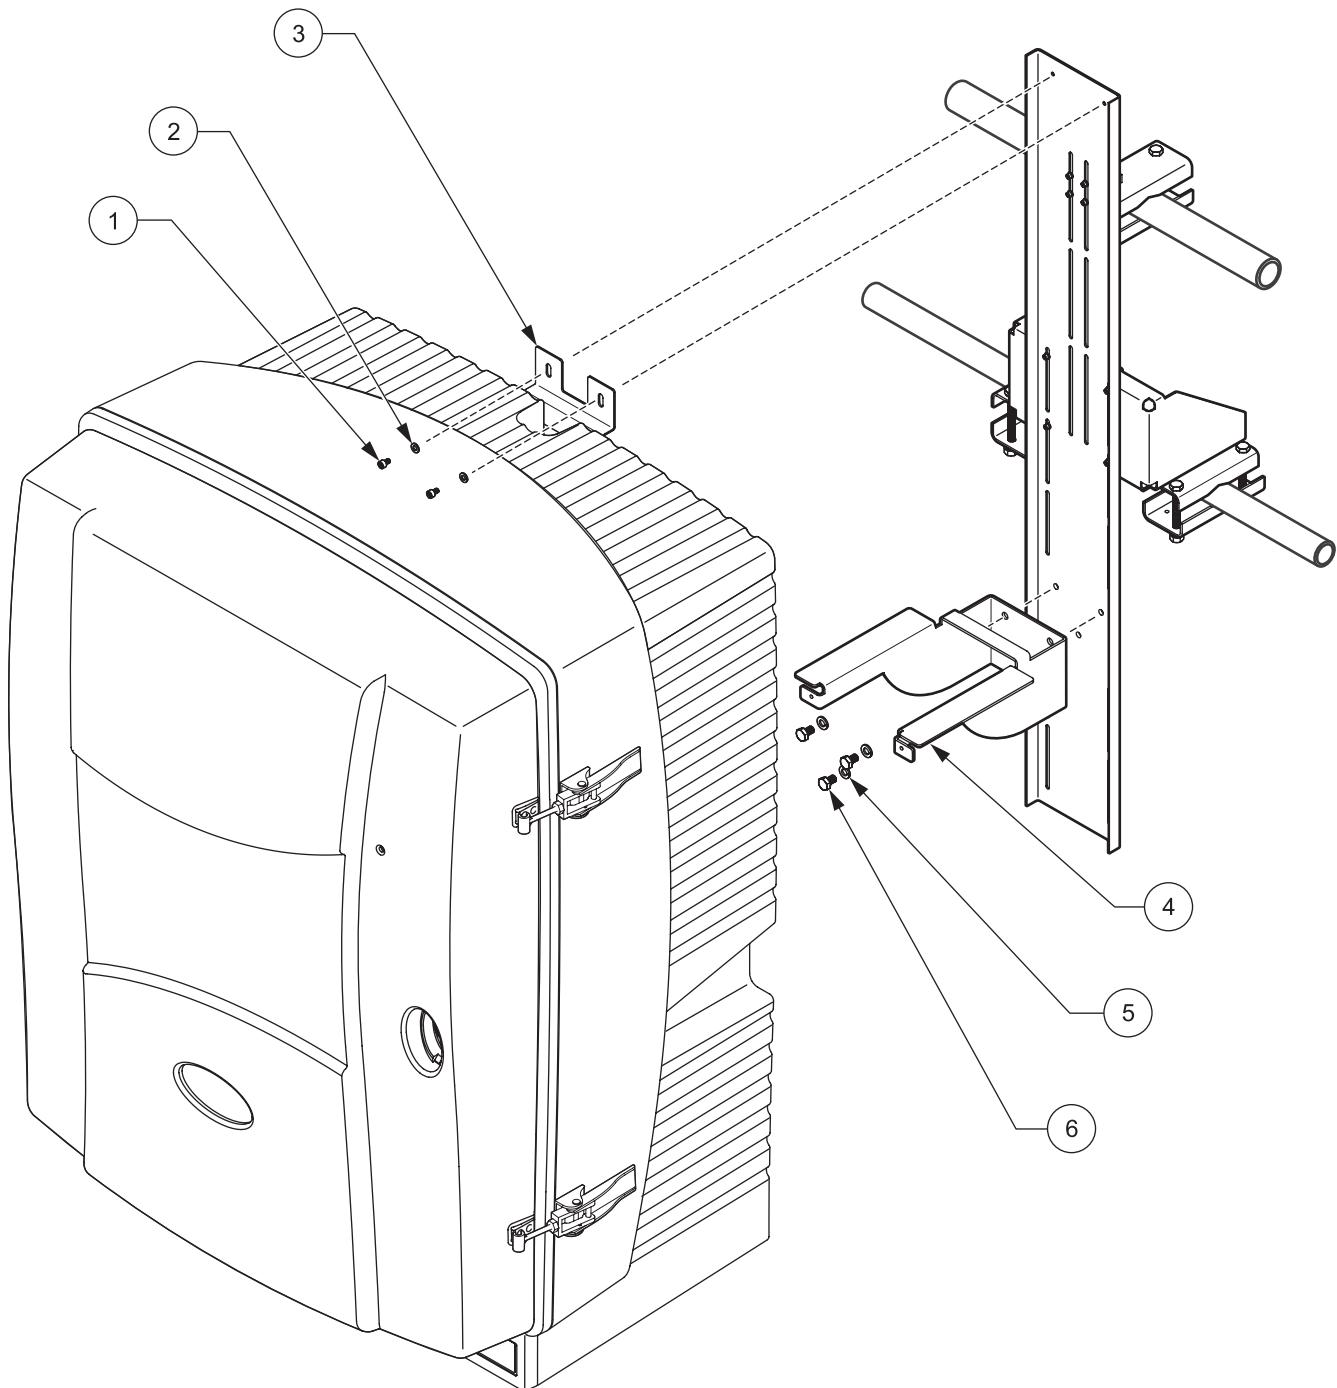

Figure 11 Installation of the analysis instrument on the mounting rail
6. Screw the top angle bracket from the items supplied with the analysis instrument to the analysis instrument (see Figure 11 on page 12 and also the operating instructions for the analysis instrument, Installation section).
7. Fit the fastening bracket (from the items supplied with the analysis instrument) to the mounting rail using the three M8X12 screws and spring washers (see Figure 11 on page 12 and operating instructions for the analysis instrument, Installation section).
10. Screw the top angle bracket (from the items supplied with the analysis instrument) on the analysis instrument to the mounting rail (see Figure 11 on page 12).